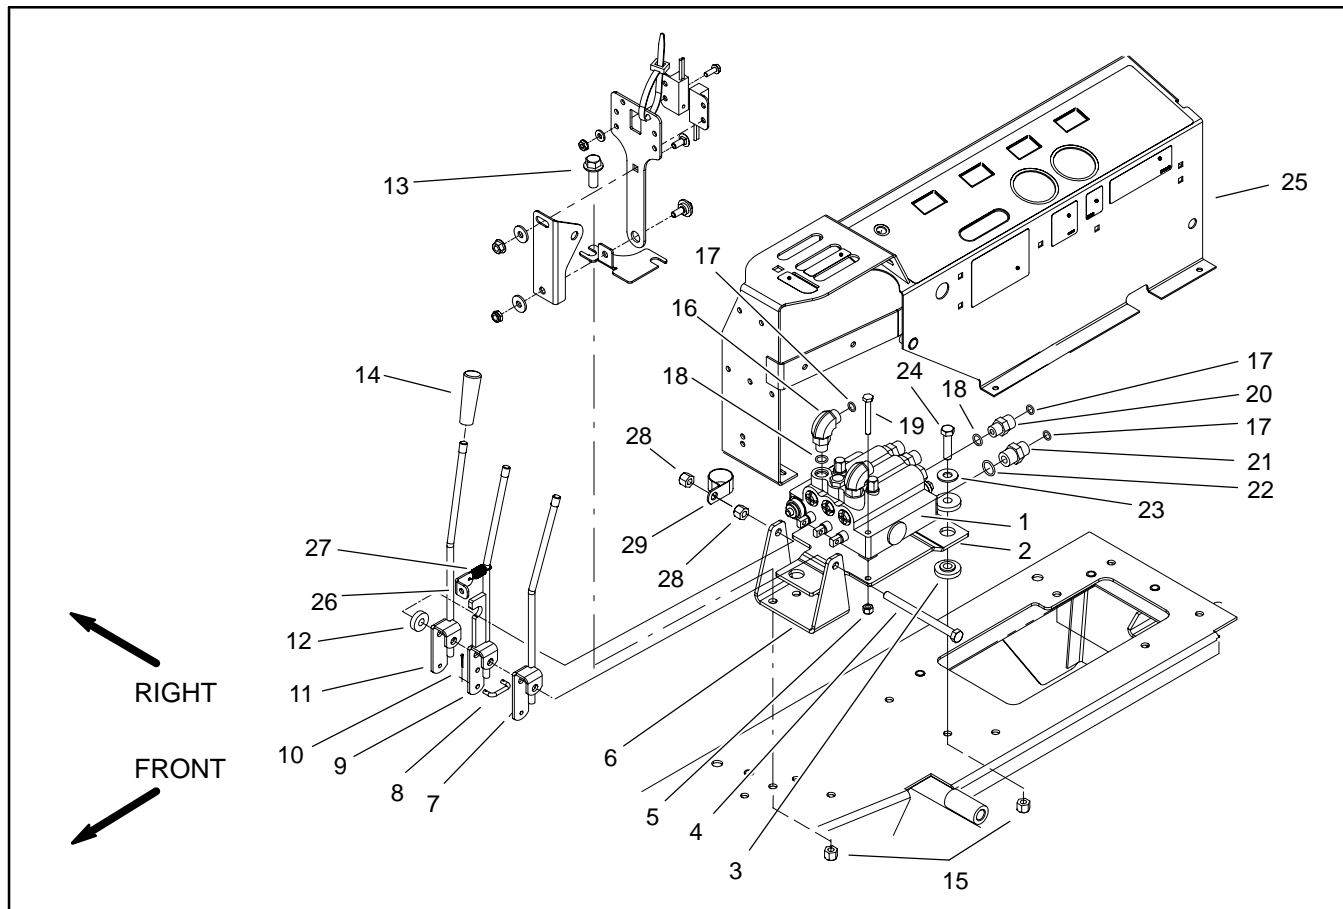

Figure 88
Removal (Fig. 88)
4. Remove lift/lower control valve using Figure 88 as a guide.
Installation (Fig. 88)
2. Install lift/lower control valve using Figure 88 as a guide.
- A. If valve bracket (item 2) was removed, tighten cap screw (item 24) only until the washer (item 23) begins to seat against the isolator (item 3). The isolator should not be deformed.